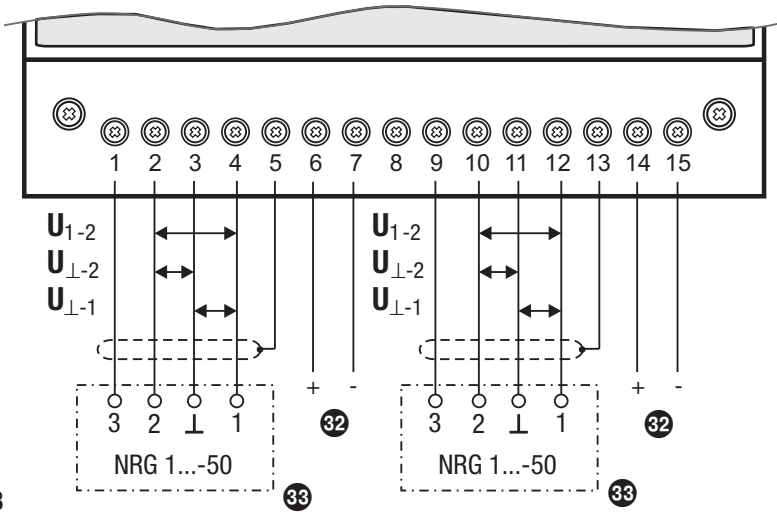

Fig. 23
6. Run cable through cable gland **16** and upper part of the terminal box **11** and wire terminals of the connecting plate **12** in accordance with wiring diagram. **Fig. 23**